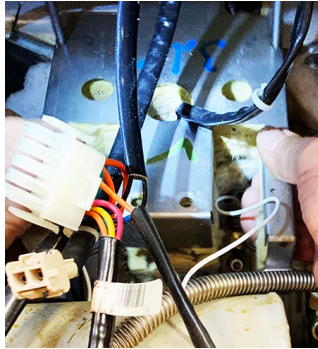

Figure 39
42. Gently lift up and slide the cover and insulation forward off the frypot (see Figure 39).